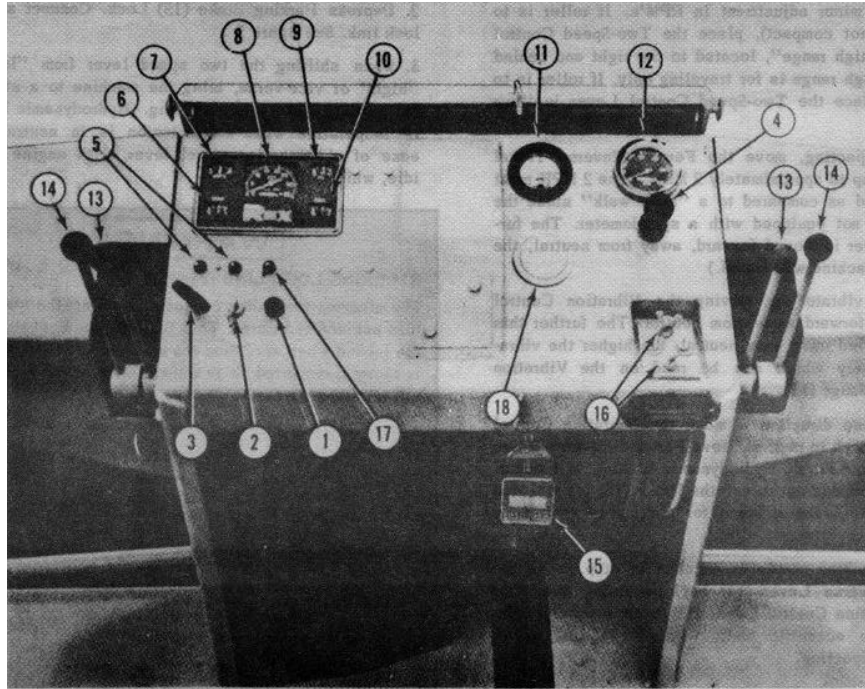

FIGURE 4
NOTE. The instrument and control counsel shown in figure 4 is of a SP900 "Asphalt" Roller. The SP848 and SP1300 "Soil" Rollers do not have items 5 and 17. Also for the Soil Rollers, the steering wheel is located In the center of the counsel. The SP900 has Duel Steering.
OPERATION (Fig 4)